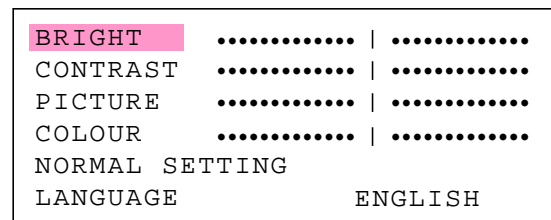

Fig. 4-2
- Press the **MENU** Button, the setup Menu will be displayed as shown in Fig. 4-2.